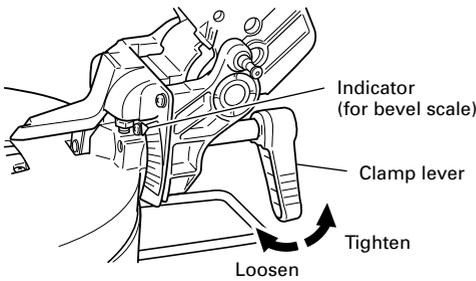

Fig. 16
11. Bevel cutting procedures (Fig. 16)